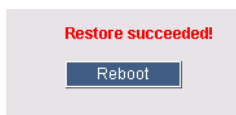

Figure 26 Reboot
8. Select Restore. The factory defaults are restored. When the process finishes Figure 26 appears.